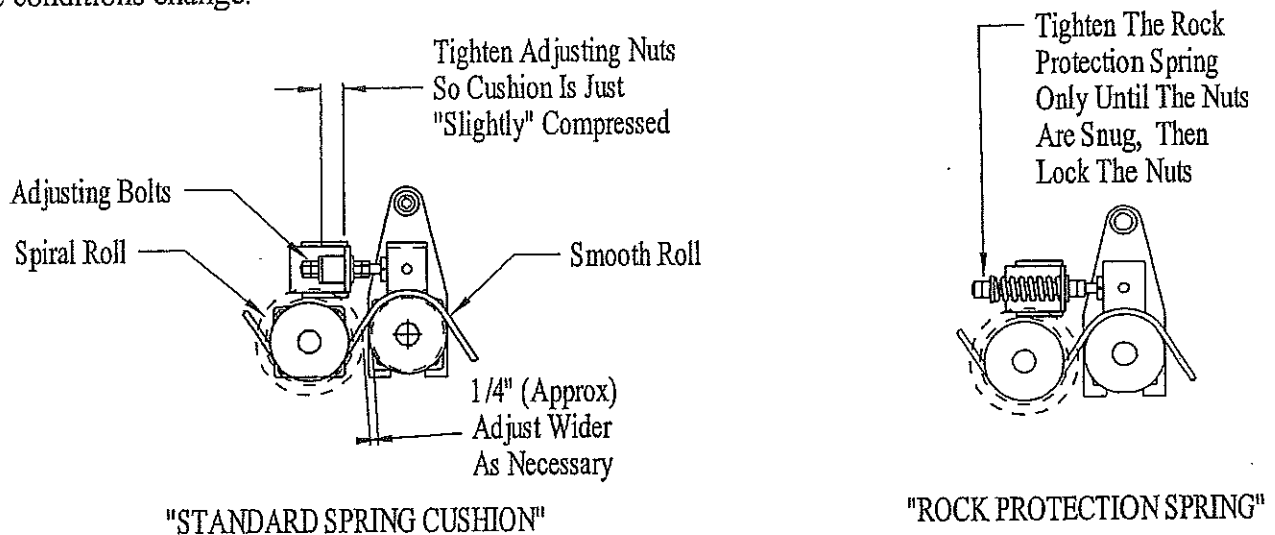

FIGURE 14
**Please note:** When beet tops freeze and become ropey and tough, it is important that the beets are properly topped because the harvester "will not" remove the top and potential plugging problems may occur. If this condition exists, keep the grab roll spacing closer. See Figure 14. for adjustment explanation with the standard spring cushion as well as the rock protection spring.